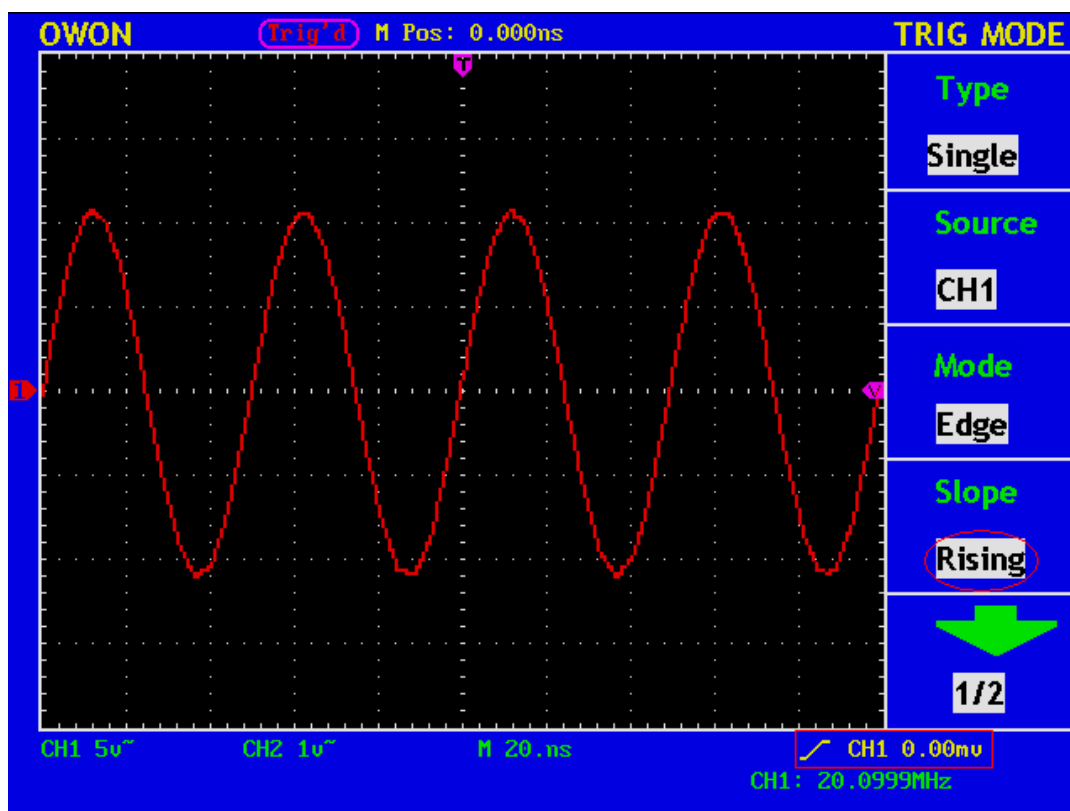

Fig. 34 Edge trigger (Rising Wave,the first menu)
- 5、 Press “F4” to choose slope as “Rising”. Display as Fig.34